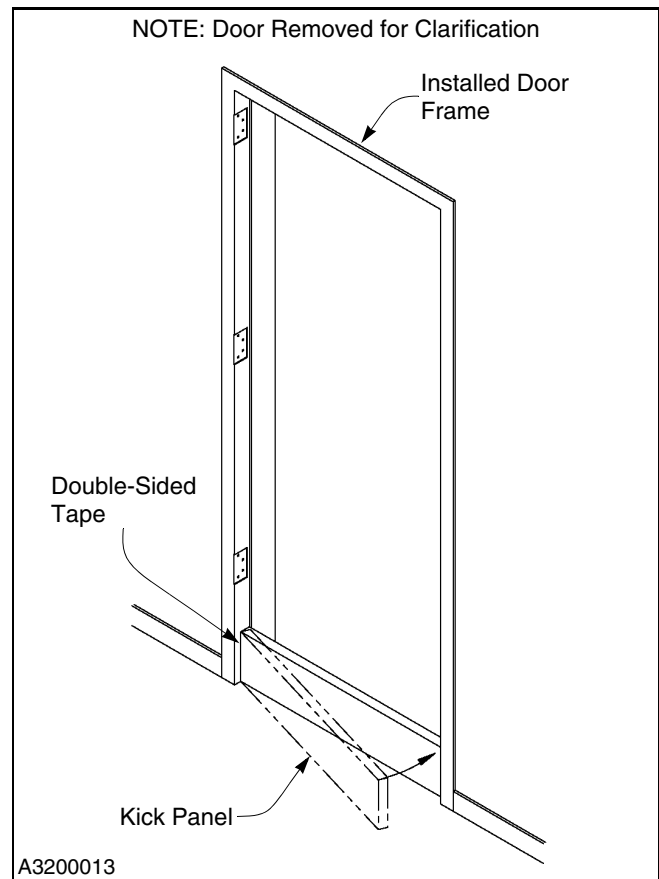

Figure 44
4. Swing kick panel into place and carefully adhere opposite end to door panel. (See Figure 44.)